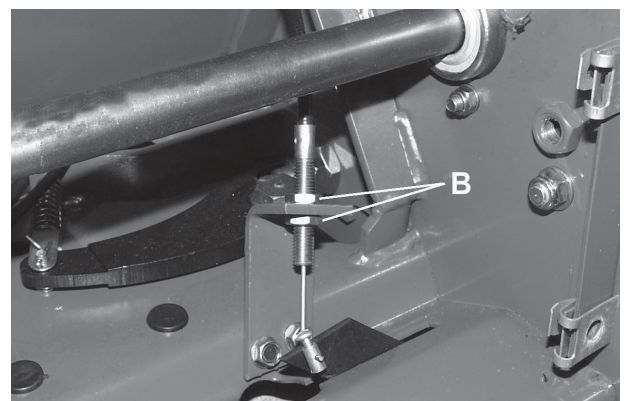

Fig. 8.7
8.7 CYLINDER CLUTCH ADJUSTMENT (Fig. 8.7)